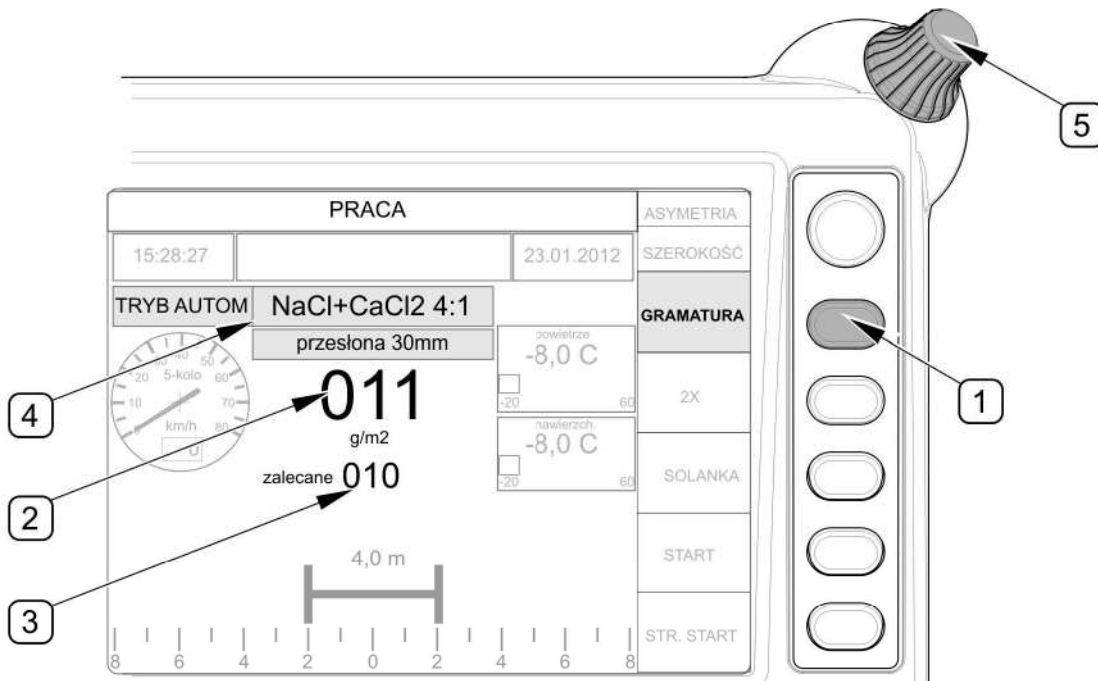

FIG. 4.31 Correction in automatic mode (option)
On control panel working page ("OPERATION") (FIG. 4.31), the operator can correct the dose for a defined automatic mode after selecting "SPREADING DENSITY" function by means of push-button (1). Correction is made by means of knob (5). Recommended density (3) for a defined mode T1, T2 or T3 is displayed below spreading density set by the operator (2) (FIG. 4.31)